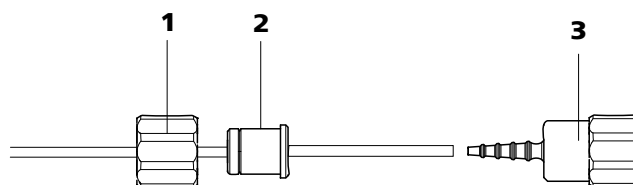

Figure 26 Install pump tubing connection without filter
- **Case B:** a 6.2744.160 pump tubing connection **without filter** (see figure 26, page 45).